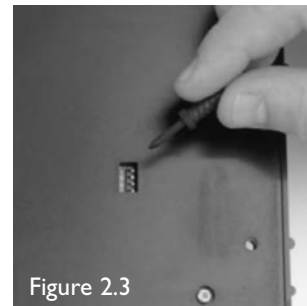

Figure 2.3
- 4) If you want to utilize the Night time release function, select the relevant dip switch/s to the On position. (Fig 2.3)